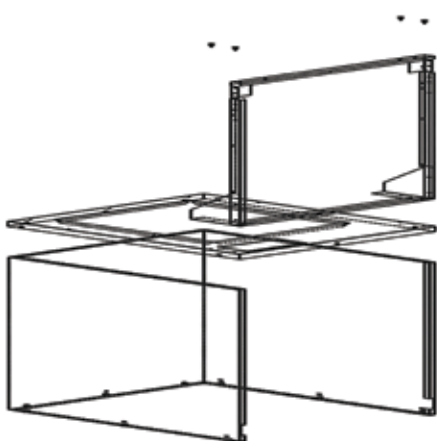

Figure 6: Return Air Grille Frame Assembly
6. Set the return air grille frame assembly on the front of the furnace top cover as shown in Figure 6. Line up the screw holes in the frame assembly with the screw holes in the furnace top cover and attach the frame assembly to the furnace top cover using the provided screws.